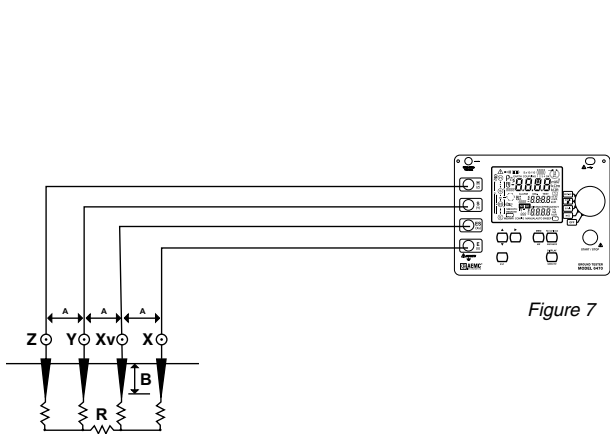

Figure 7
Resistivity measurements are of two types; the 2-Point and the 4-Point method. The **2-Point method** is simply the resistance measured between two points. For most applications the most accurate is the **4-Point method** which is used in Ground Tester Model 4620, 4630, 6470-B, 6471 or 6472. The 4-Point method (Figures 7 and 8), as the name implies, requires the insertion of four equally spaced and in-line electrodes into the test area. A known current from a constant current generator is passed between the outer electrodes. The potential drop (a function of the resistance) is then measured across the two inner electrodes. The Model 4620, 4630, 6470-B, 6471 and 6472 are calibrated to read directly in ohms. Where space or access to inserting rods is a problem, the Miller box and multiple depth testing may be used. The Schlumberger method is used mainly for geologic surveys.
- Connect all four auxiliary rods (Figure 7)